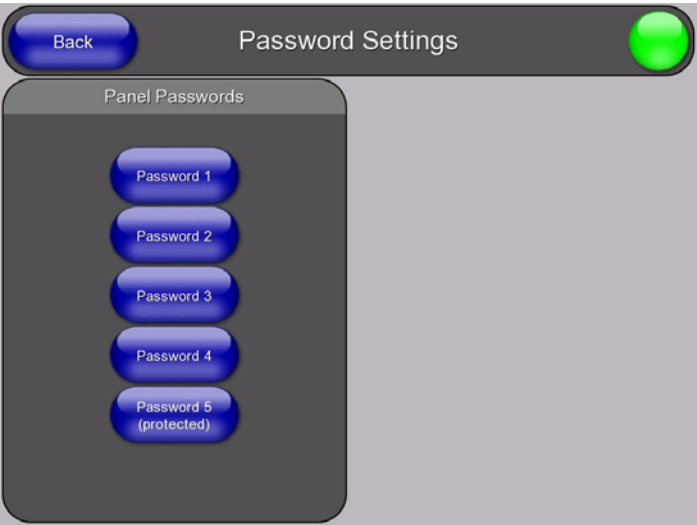

FIG. 73 Protected Setup (Other Settings) - Password Settings Page
- **Passwords** - Press to access the *Password Settings Page* (FIG. 73 on page 71)
Select **Passwords** from the *Other Settings* slider (see FIG. 71 on page 69) to access the *Password Settings Page* (FIG. 73):